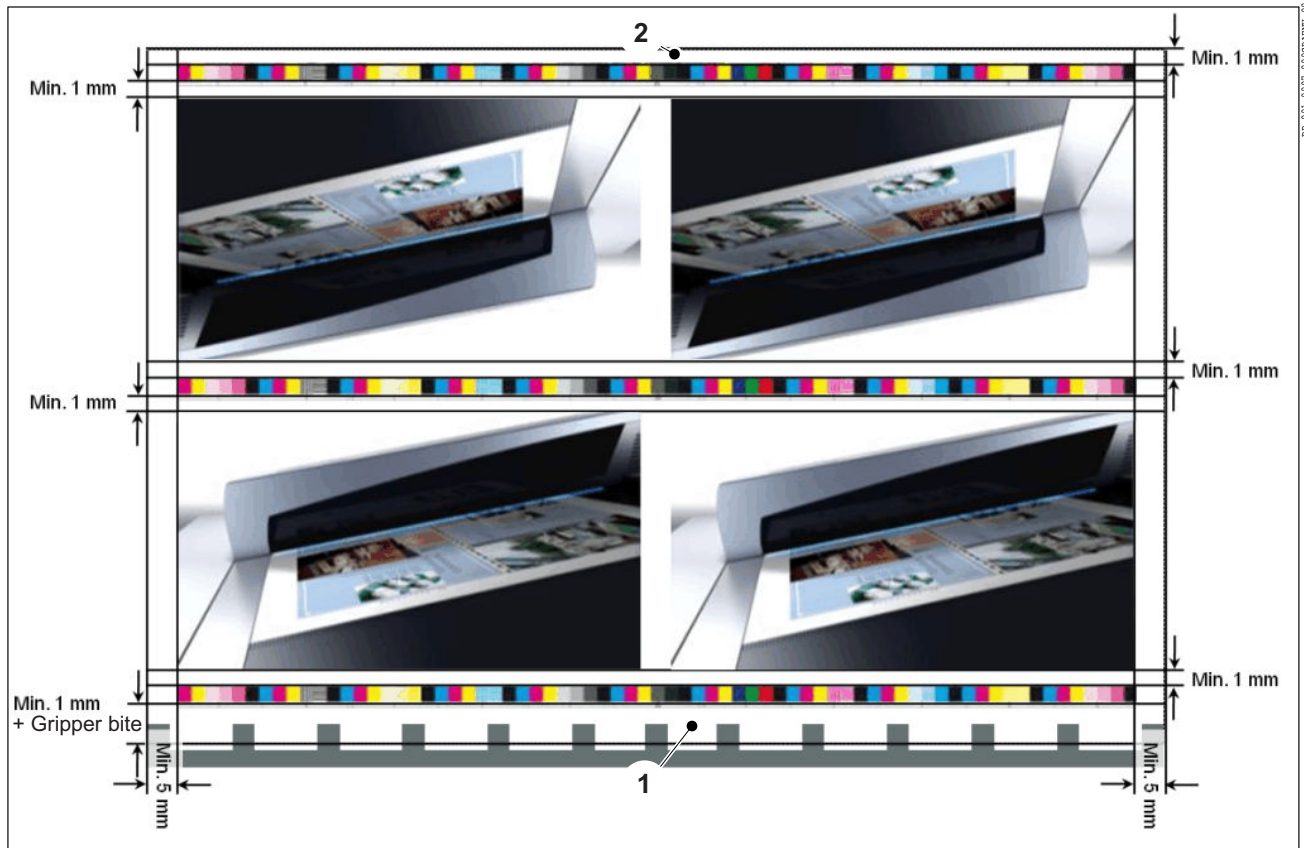

Fig. 35 Mounting with Prinect Image Control
- You can mount the quality control strip at any position you wish between the gripper margin (Fig. 35/1) and the rear edge of sheet (Fig. 35/2).